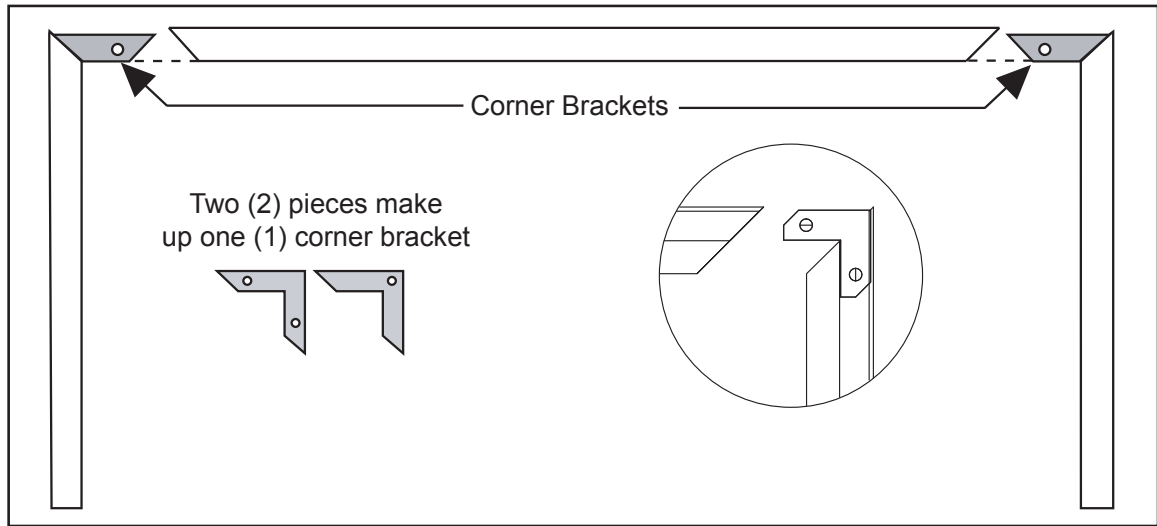

Figure 29: Assembling Trim for Surround Panel.
1. Assemble the trim set using the corner hardware and screws supplied in the surround panel packaging. Install corner hardware into the side trim pieces, then push them into the top trim. Do not over-tighten the corners or the side trim cannot be removed during servicing. See Figure 29.